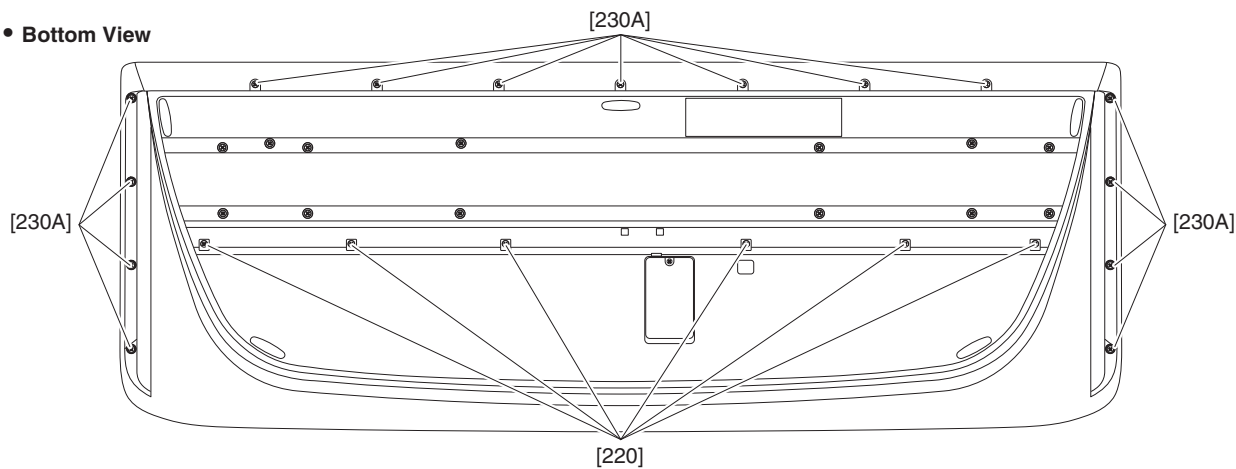

Fig. 1
1-1 Remove the six (6) screws marked [220], the fifteen (15) screws marked [230A], and the seven (7) screws marked [240A], then lift up the back of the upper case assembly slightly, slide it forward, and remove the upper case assembly while being careful of the connector assembly. (Fig. 1, Photo 1)
1-2 Remove all of the wire bundles that connect the upper case assembly and the lower case assembly, then separate the upper case assembly from the lower case assembly. (Fig. 1)
* **When installing the upper case assembly and lower case assembly, first tighten the three (3) priority screws in order as shown in Fig. 1.**
* **When installing the upper case assembly and lower case assembly, tighten marked [220] before marked [230A]. (Fig. 1)**